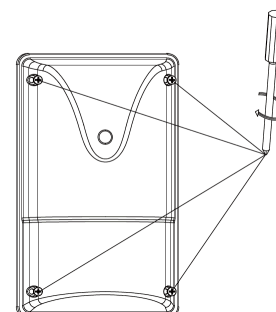

Fig. 6
7. Secure luminaire with the 4 screws. (Fig. 6)